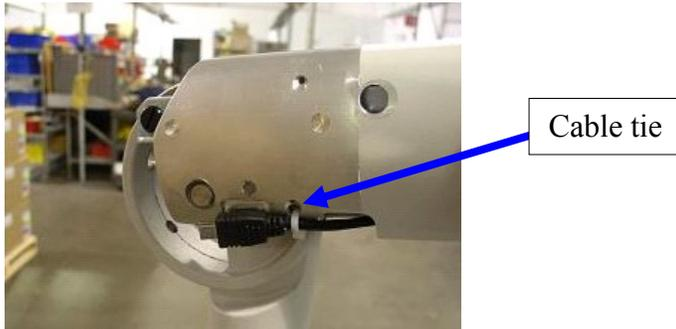

Figure 27
2. Locate the cable tie that holds the end of the USB cable to the articulating arm – see Figure 27 on page 20.